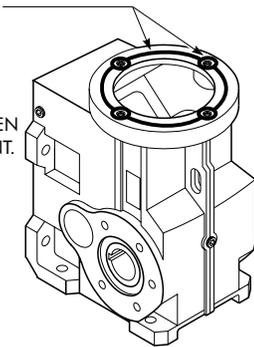

FIGURE 3
- Apply liquid gasket material (Loctite® 518, Falk Part # 2918376) furnished to flange face of basic housing as illustrated in Figure 3, Page 4. **Caution:** This step must be followed to prevent leakage.
7. Apply liquid gasket material (Loctite® 518, Falk Part # 2918376) furnished to flange face of basic housing as illustrated in Figure 3, Page 4. **Caution:** This step must be followed to prevent leakage.